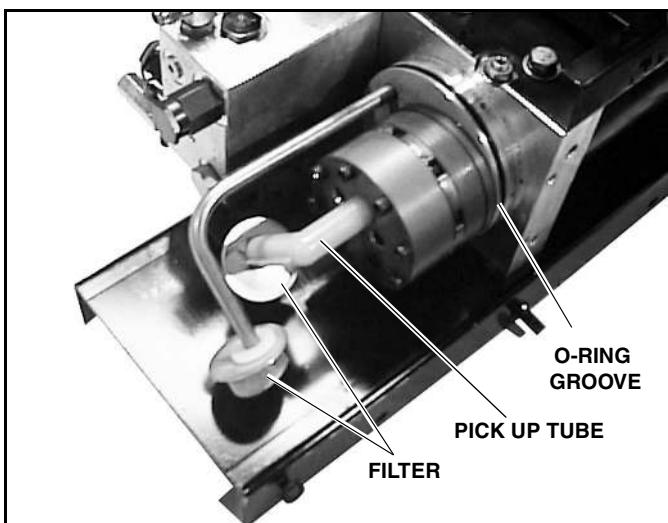

Figure 2-15
- Visually check that the pickup tube and filter face down. (See Figure 2-15). If not, rotate the pickup tube until the tube and filter face down.